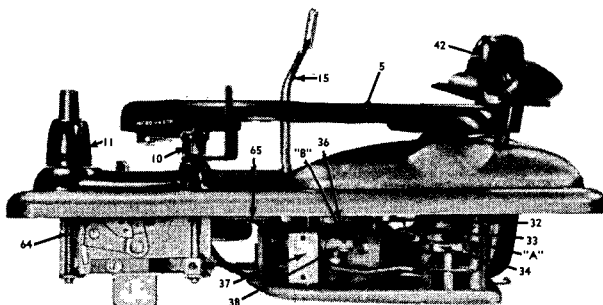

Fig. 1
At the completion of the change cycle, the Actuating Pawl is disengaged from the Main Cam Assembly Actuating Gear (36) by the hook end of the Velocity Trip and Roller Assembly (37) which has been returned to its normal position by the reset points on the Main Cam Drive Gear (Fig. 3). This hook should be adjusted for about $\frac{1}{16}$ " clearance from the bottom of the Main Cam Drive Gear (36), Fig. 1. Greater clearance may permit the pawl to bounce past the hook and re-engage, causing the mechanism to continue to cycle.
Be sure the set screws (A of Fig. 1) of the pickup arm raising disc are not loose and are properly positioned in the alignment holes as explained in the paragraph on Needle Setdown Indexing.
5. With a No. 8 Bristol wrench in each of the set screws of the Pickup Arm Raising Disc (35) as indicated in A, Fig. 1, alternately loosen one screw and tighten the other until the needle rests above the record lead-in groove at the desired point.
6. Complete the change cycle of the mechanism and position the Pickup Arm on the rest button (10). If necessary, bend the tongue of the Pickup Arm Raising Disc closer to or away from the Base Plate Post until the Pickup Arm is correctly seated on the rest button when the tongue is touching the Base Plate Post.